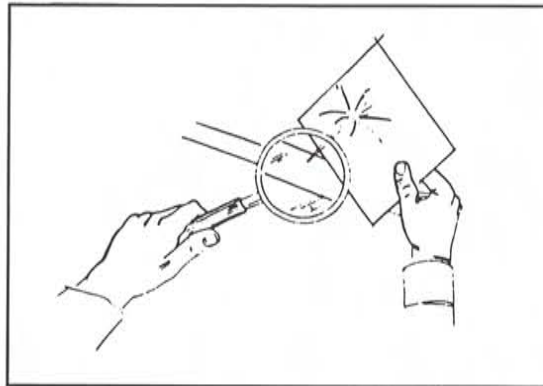

Figure 3
- Fluid escaping from a small hole may be nearly invisible under high pressure . . . use a piece of cardboard to locate suspected leaks. (see figure 3)